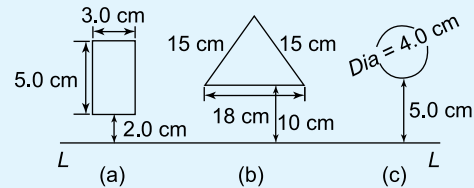

Figure 9.23
- For each of the areas shown in Figure 9.23 determine the second moment of area and radius of gyration about axis LL , by using the parallel axis theorem.